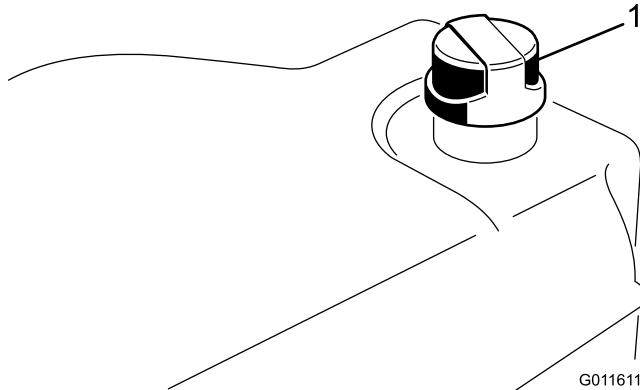

Figure 20
- Clean area around filler neck and cap of hydraulic tank (Figure 20).